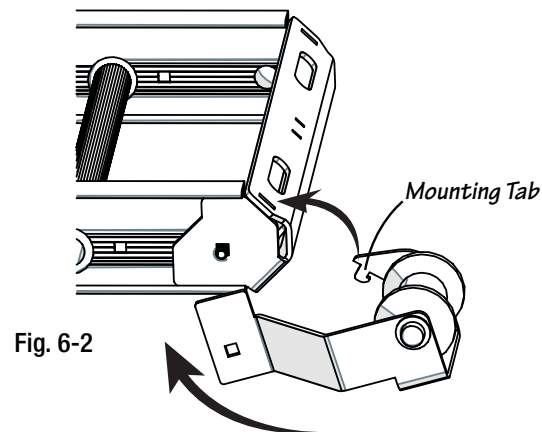

Fig. 6-2
- Working on the top end of the tracks, hold one tilt roller assembly at a slight counterclockwise angle shown in Fig. 6-2.
- Slide the mounting tab into the mounting slot located on the front left/right of the top cap. See Fig. 6-2